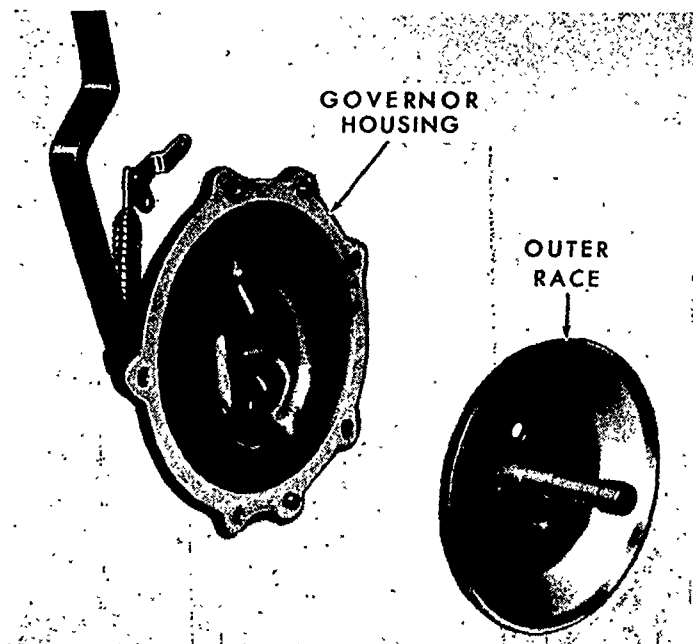
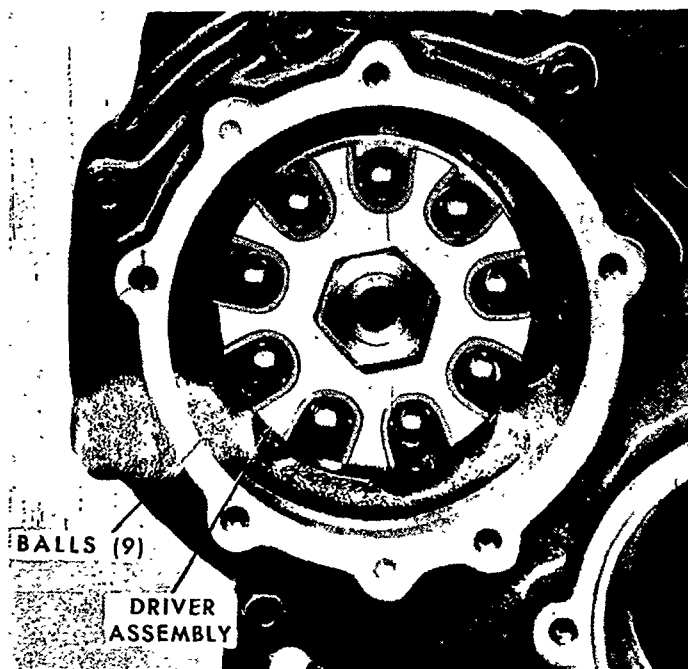

Figure 35
Figure 36
3. Remove the governor outer race, Figure 35. The governor balls are shown in position in the governor driver assembly, Figure 36.